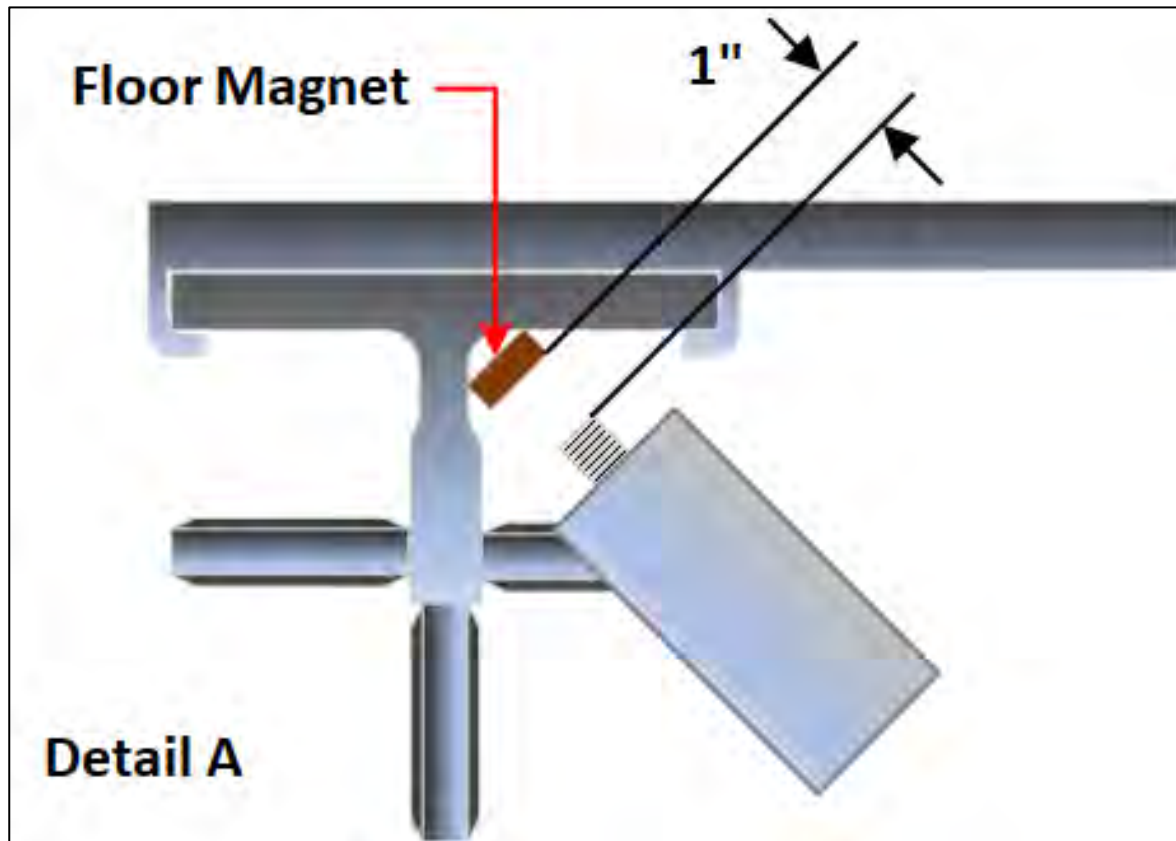

Figure 2-26: Tapeless Selector 7 Leveling Floor Magnet Placement
- Install the 8-inch floor magnets on the rail at every floor. The 8-inch floor magnet should be placed in the corner of the rail as shown in "Detail A" in Figure 2-26. When the car is at floor level, the centerline of the 8-inch floor magnet should be at the same height as the centerline of the UL and DL sensors.
- Adjust the leveling sensor box and the leveling sensors so that the ends of the sensors are 1-inch from the face of the magnet. See Figure 2-26. The UL and DL sensors are mounted in slotted holes to allow fine adjustment of the "floor level zone" in section 3.7.3. However, these sensors should be set in the middle of the adjustment slot as a starting point prior to final adjustment.